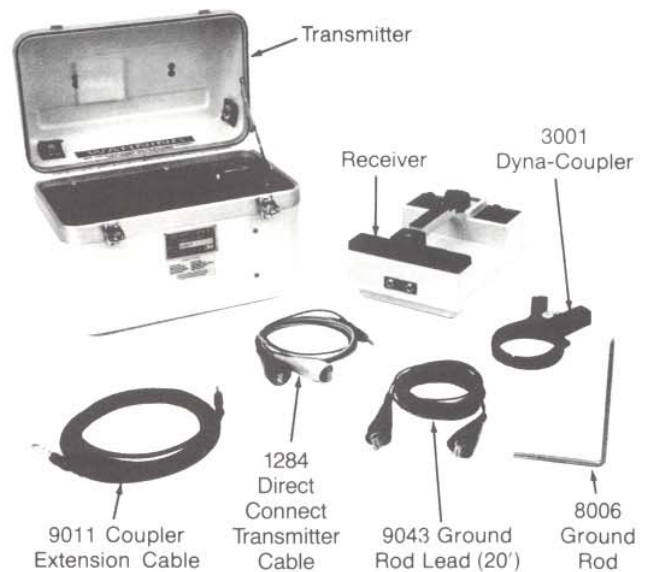

Fig. 2 — The 500A/P Cable Locator with Accessory Units
- 2.01 **THE DYNATEL 500A/P CABLE LOCATOR:** The 500A/P consists of a transmitter, a receiver, and accessory items (Fig. 2). The transmitter and receiver cases are made of high-density polyethylene for light weight and high durability, and are colored bright yellow for visibility. Both are water-resistant in wet-weather operation. For compact storage and carrying, the receiver and accessories fit into the transmitter case. To preserve battery life, "off" switches are activated on both Transmitter and Receiver when the receiver is fitted into the transmitter case. A stainless steel ground rod is clipped inside the set's lid.